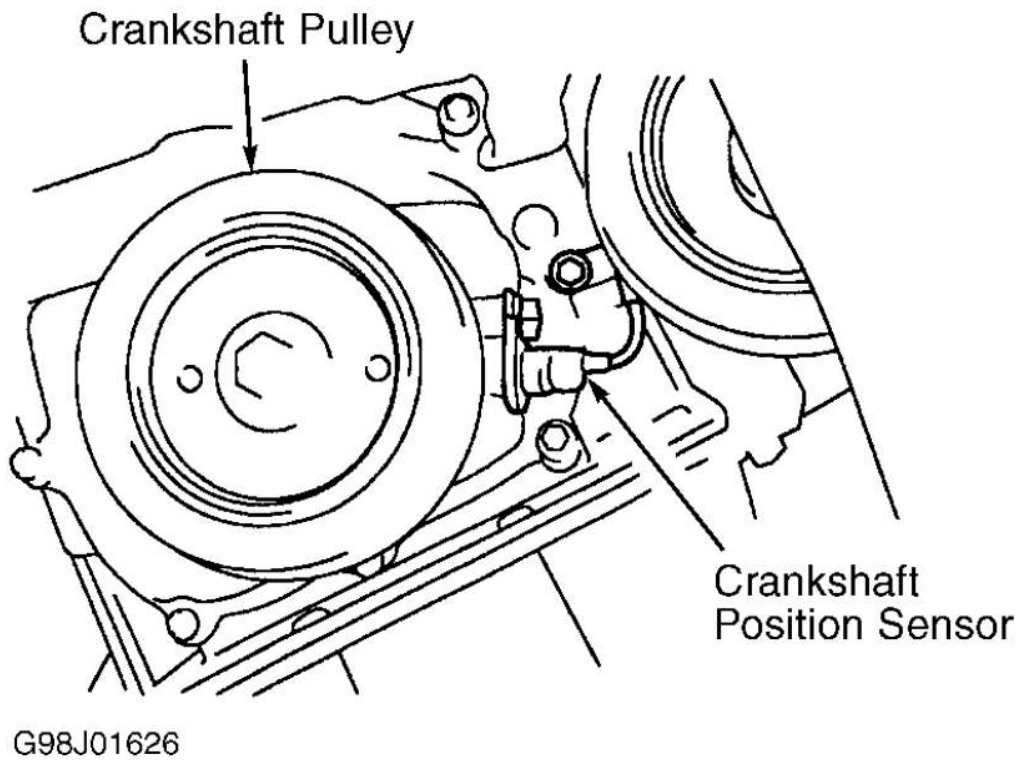

Fig. 47: Locating Crankshaft Position Sensor (Celica & Corolla)
1. Crankshaft position sensor is located on front of engine, near crankshaft pulley. See **Fig. 47**.